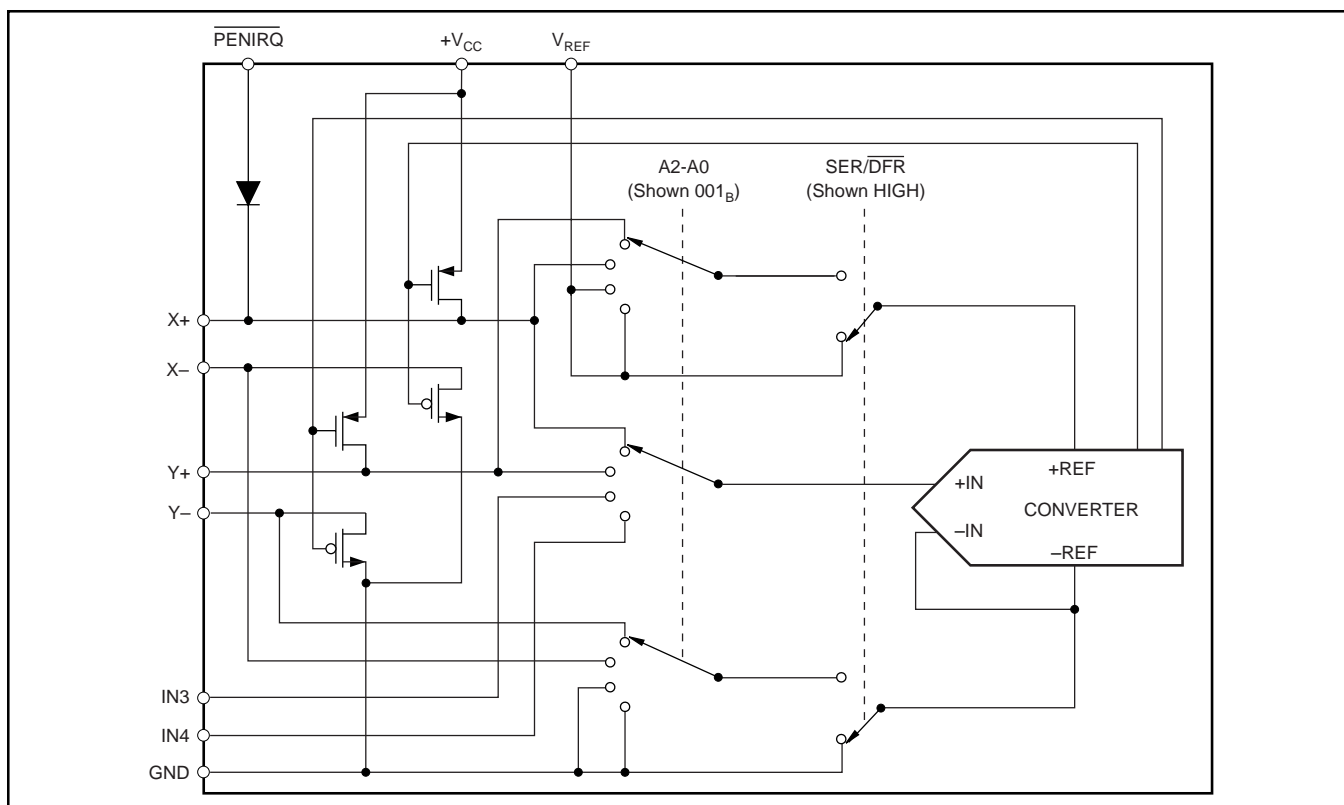
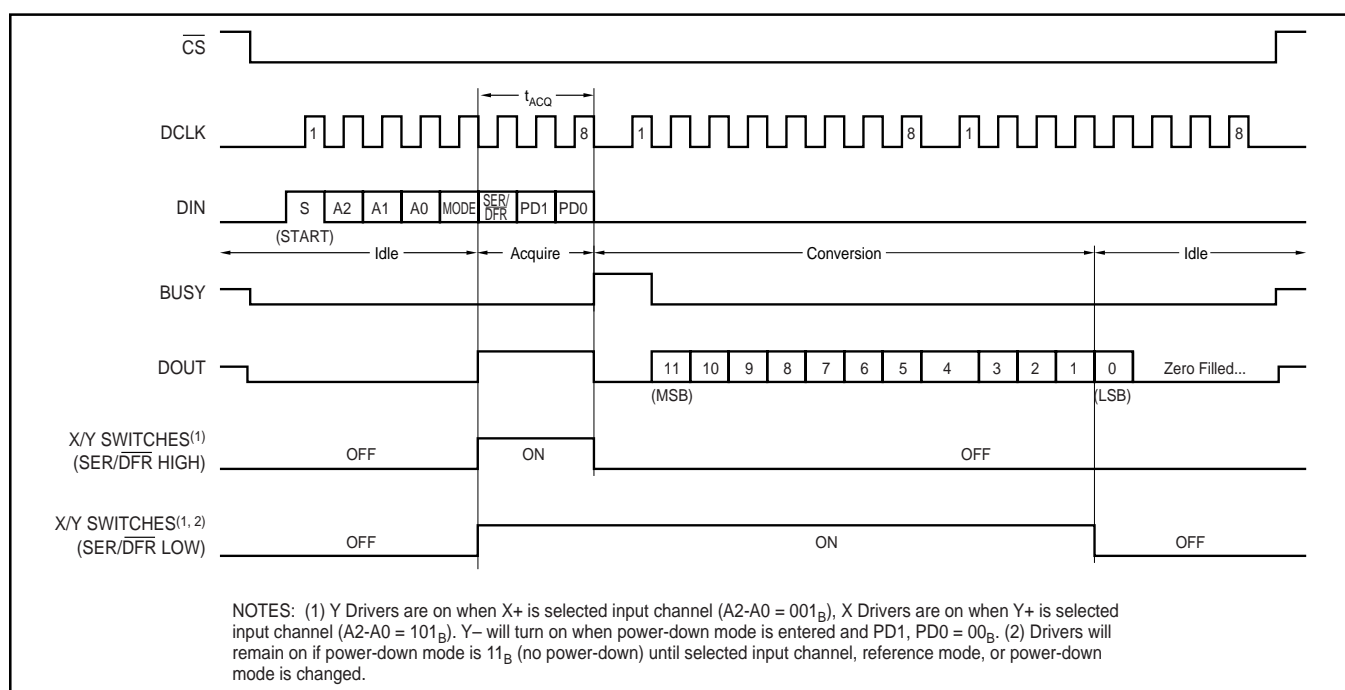

FIGURE 2. Simplified Diagram of Analog Input.
FIGURE 5. Conversion Timing, 24 Clocks per Conversion, 8-bit Bus Interface. No DCLK Delay Required with Dedicated Serial Port.
See Figure 2 for a block diagram of the input multiplexer on the ADS7843, the differential input of the ADC, and the converter's differential reference. Table I and Table II show the relationship between the A2, A1, A0, and SER/ $\overline{\text{DFR}}$  control bits and the configuration of the ADS7843. The control bits are provided serially via the DIN pin—see the Digital Interface section of this data sheet for more details.
When the converter enters the hold mode, the voltage difference between the +IN and –IN inputs (see Figure 2) is captured on the internal capacitor array. The input current on the analog inputs depends on the conversion rate of the device. During the sample period, the source must charge the internal sampling capacitor (typically 25pF). After the capacitor has been fully charged, there is no further input current. The rate of charge transfer from the analog source to the converter is a function of conversion rate.
The voltage difference between +REF and -REF (shown in Figure 2) sets the analog input range. The ADS7843 will operate with a reference in the range of 1V to +VCC. There are several critical items concerning the reference input and its wide voltage range. As the reference voltage is reduced, the analog voltage weight of each digital output code is also reduced. This is often referred to as the LSB (least significant bit) size and is equal to the reference voltage divided by 4096. Any offset or gain error inherent in the ADC will appear to increase, in terms of LSB size, as the reference voltage is reduced. For example, if the offset of a given converter is 2LSBs with a 2.5V reference, it will typically be 5LSBs with a 1V reference. In each case, the actual offset of the device is the same, 1.22mV. With a lower reference voltage, more care must be taken to provide a clean layout including adequate bypassing, a clean (low noise, low ripple) power supply, a low-noise reference, and a low-noise input signal.
Figure 5 shows the typical operation of the ADS7843's digital interface. This diagram assumes that the source of the digital signals is a microcontroller or digital signal processor with a basic serial interface. Each communication between the processor and the converter consists of eight clock cycles. One complete conversion can be accomplished with three serial communications, for a total of 24 clock cycles on the DCLK input.
See Figure 5 for the placement and order of the control bits within the control byte. Tables III and IV give detailed information about these bits. The first bit, the 'S' bit, must always be HIGH and indicates the start of the control byte. The ADS7843 will ignore inputs on the DIN pin until the start bit is detected. The next three bits (A2-A0) select the active input channel or channels of the input multiplexer (see Tables I and II and Figure 2). The MODE bit determines the number of bits for each conversion, either 12 bits (LOW) or 8 bits (HIGH).
The SER/DFR bit controls the reference mode: either single-ended (HIGH) or differential (LOW). (The differential mode is also referred to as the ratiometric conversion mode.) In single-ended mode, the converter's reference voltage is always the difference between the  $V_{REF}$  and GND pins. In differential mode, the reference voltage is the difference between the currently enabled switches. See Tables I and II and Figures 2 through 4 for more information. The last two bits (PD1-PD0) select the power-down mode as shown in Table V. If both inputs are HIGH, the device is always powered up. If both inputs are LOW, the device enters a power-down mode between conversions. When a new conversion is initiated, the device will resume normal operation instantly—no delay is needed to allow the device to power up and the very first conversion will be valid. There are two power-down modes: one where PENIRQ is disabled and one where it is enabled.
NOTES: (1) Reference voltage at converter: +REF – (–REF). See Figure 2.
(2) Input voltage at converter, after multiplexer: +IN – (–IN). See Figure 2
Another important consideration for power dissipation is the reference mode of the converter. In the single-ended reference mode, the converter's internal switches are on only when the analog input voltage is being acquired (see Figure 5). Thus, the external device, such as a resistive touch screen, is only powered during the acquisition period. In the differential reference mode, the external device must be powered throughout the acquisition and conversion periods (see Figure 5). If the conversion rate is high, this could substantially increase power dissipation.